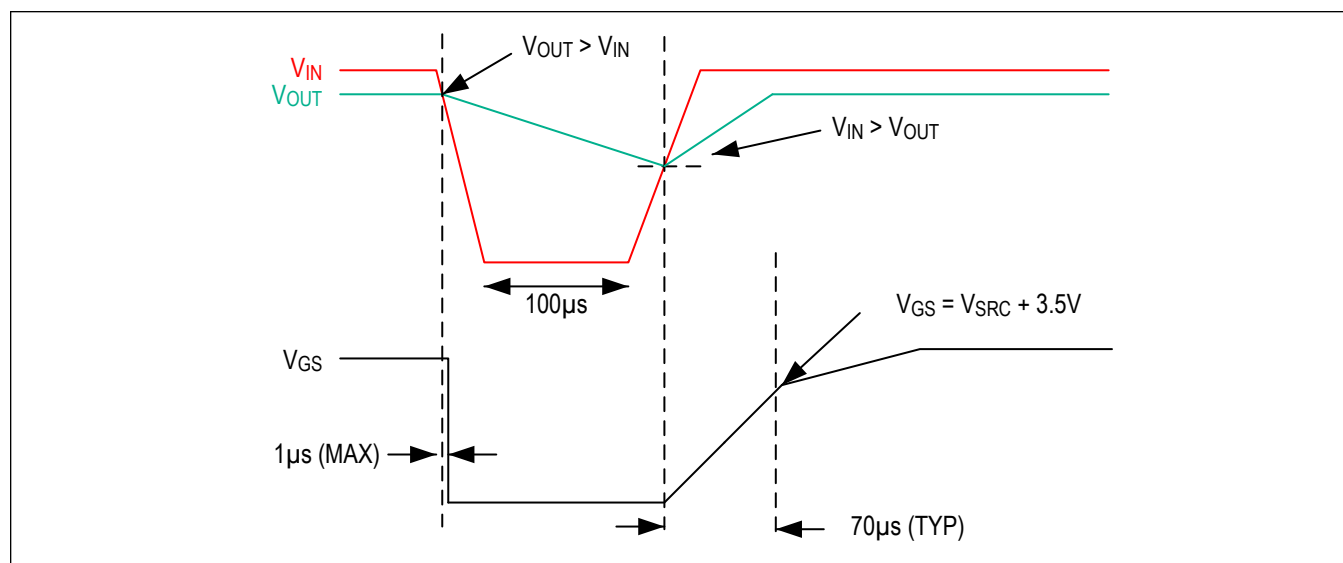

Figure 5. Short Power Interruption and Recover
In an automotive environment, systems usually experience brief power interruptions where the main supply is shorted to ground. The power interruption may last for several seconds and the only source of power to system load is the output capacitance. To ensure fast recovery, an auxiliary input (V_{CC}) helps keep the MAX16141/MAX16141A in standby mode for 100μs (typ). When the main supply input (IN) recovers, the MAX16141/MAX16141A initiate a fast recovery mode that allows the gate to reach its peak voltage within 70μs (max). See Figure 5 for more detail. Therefore, brief power supply interruptions will not affect operation of the load, as long as the load-side capacitance is sufficiently large to power the load during the interruption.